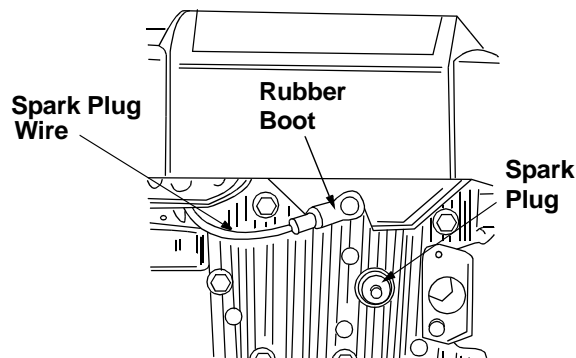

Figure 4
- Before setting up your lawn mower, disconnect the spark plug wire from the spark plug, and ground it against the engine. See Figure 4.